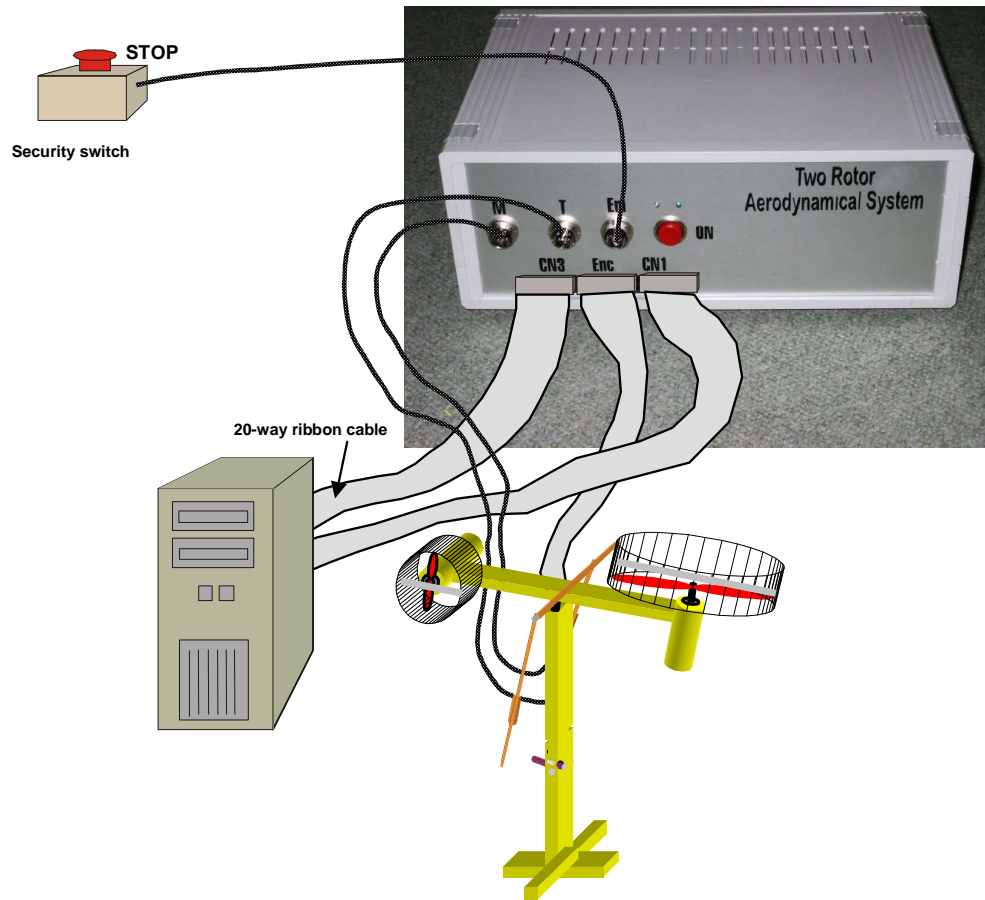

Fig. 6.1 Power Interface and connecting cables
The general diagram of power interface connections is given in Fig. 6.1.
- ⇒ plug 10 - way ribbon cables from the encoders into the connectors marked as **E** (Fig 6.1).
Notice, that the connectors and the sockets are clearly marked using the convention presented in Fig. 6.1